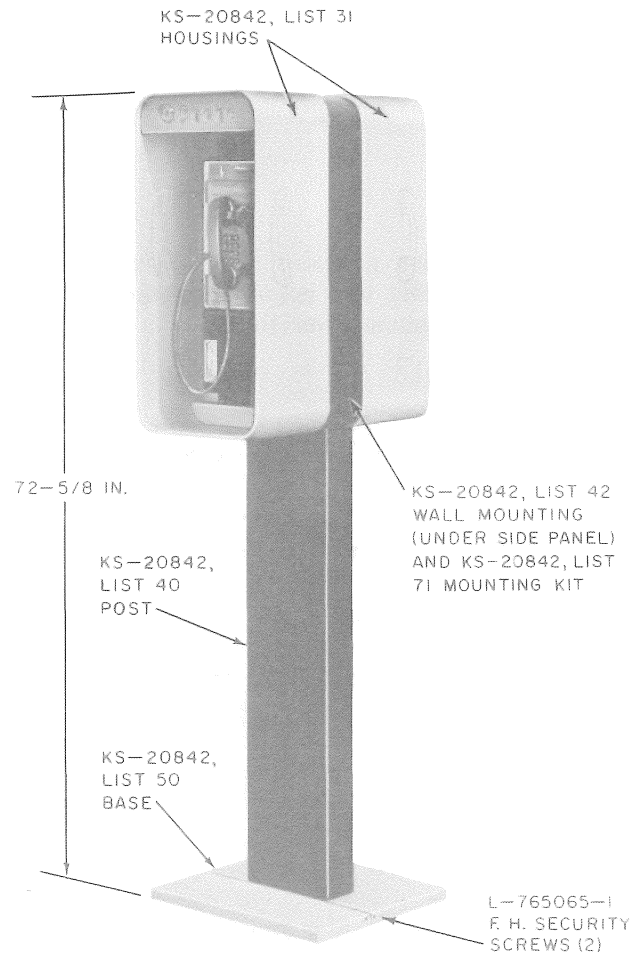

Fig. 3—KS-20842, List 21 (Walk-Up Back-to-Back) Telephone Mounting
2.17 It may be installed as a walk-up, drive-up, or wall mounting. Two List 31 housings (Fig. 3) may also be mounted back-to-back on one post by using a List 71 mounting kit and List 42 wall mounting. This entire assembly may be ordered as a List 21 or 22 (Table A). An optional KS-20030, List 10 directory hanger assembly may be attached to the housing. Provisions for a List 70 mast and KS-20135, List 3 sign are also provided (Fig. 6).